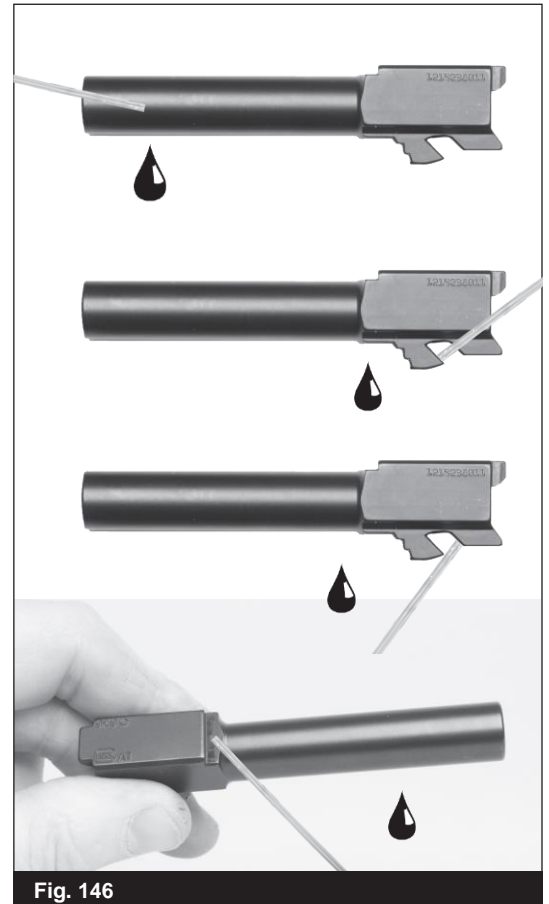

Fig. 146
- Slightly dampen a clean patch with gun oil or cleaner-lubricant-preservative and wipe the outside of the barrel, including the barrel hood and lugs and the inside top of the slide in front of the ejection port where the barrel hood rubs against the slide. (Fig. 146)